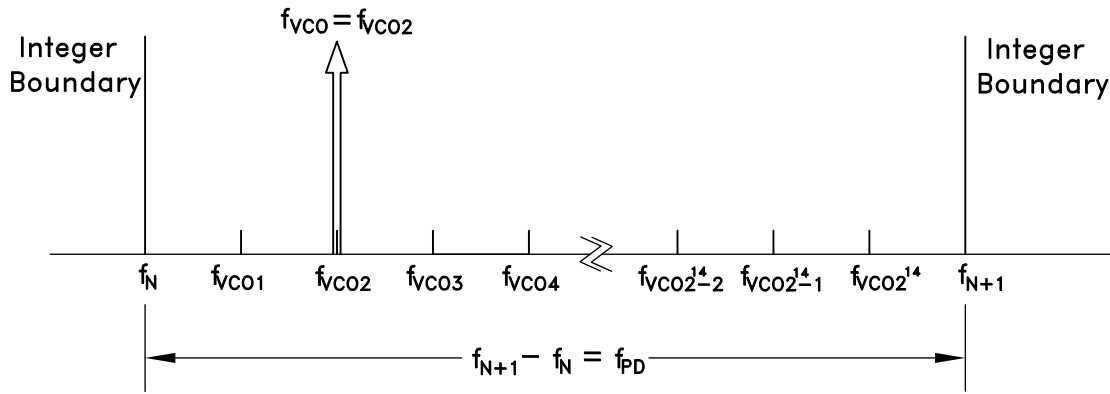

Figure 40. Exact Frequency Tuning
and f_{VCOk} are the channel step frequencies where $0 < k < 2^{24}-1$, As shown in Figure 40.
Some fractional PLLs are able to achieve this by adjusting (shortening) the length of the Phase Accumulator (the denominator or the modulus of the Delta-Sigma modulator) so that the Delta-Sigma modulator phase accumulator repeats at an exact period related to the interval frequency ($f_{VCOk} - f_{VCO(k-1)}$) in Figure 40. Consequently, the shortened accumulator results in more frequent repeating patterns and as a result often leads to spurious emissions at multiples of the repeating pattern period, or at harmonic frequencies of $f_{VCOk} - f_{VCO(k-1)}$. For example, in some applications, these intervals might represent the spacing between radio channels, and the spurious would occur at multiples of the channel spacing.
If it is desirable to have multiple, equally spaced, exact frequency channels that fall within the same interval (ie. $f_N \leq f_{VCO_k} < f_{N+1}$) where f_{VCO_k} is shown in Figure 40 and $1 \leq k \leq 2^{24}$, it is possible to maintain the same integer-N (Reg 03h) and exact frequency register (Reg 0Ch) settings and only update the fractional register (Reg 04h) setting. The Exact Frequency Channel Mode is possible if (EQ 16) is satisfied for at least two equally spaced adjacent frequency channels, i.e. the channel step size.
To configure the HMC1197LP7FE for Exact Frequency Channel Mode, initially and only at the beginning, integer (Reg 03h) and exact frequency (Reg 0Ch) registers need to be programmed for the smallest f_{VCO} frequency (f_{VCO1} in Figure 40), as follows:
1. Calculate and program the integer register setting Reg 03h = $N_{INT} = \text{floor}(f_{VCO1}/f_{PD})$, where f_{VCO1} is shown in Figure 40 and corresponds to minimum channel VCO frequency. Then the lower integer boundary frequency is given by $f_N = N_{INT} \cdot f_{PD}$.
$$\text{Reg04h} = N_{FRAC} = \text{ceil}\left(\frac{2^{24}(f_{VCO_k} - f_N)}{f_{PD}}\right) \quad \text{where } f_N = \text{floor}(f_{VCO1}/f_{PD}), \text{ and } f_{VCO1}, \text{ as shown in } \text{Figure 40}, \text{ represents the smallest channel VCO frequency that is greater than } f_N.$$
4. To change from channel 1 ($f_{VCO1} = 2800.2$ MHz) to channel 2 ($f_{VCO2} = 2800.3$ MHz), only **Reg 04h** needs to be programmed, as long as all of the desired exact frequencies f_{VCO_k} (Figure 40) fall between the same integer-N boundaries ($f_N < f_{VCO_k} < f_{N+1}$). In that case